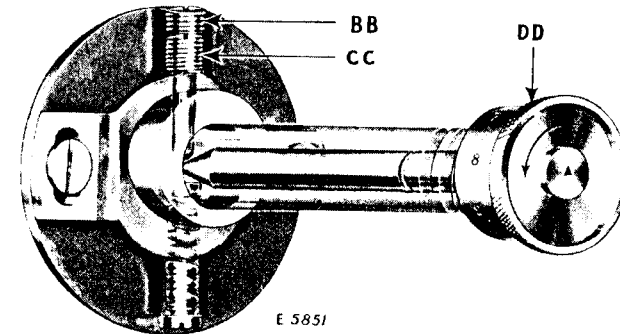

Fig. 19. "X-Ray" View of Feed Driving Eccentric
The figures on the feed regulating spindle head (DD, Fig. 19), showing through the notch in the balance wheel, indicate the
number of stitches to the inch which should be made. If more or less stitches are made, adjust as follows: Remove screw (BB, Fig. 19), set the indicator at 8 and the feed dog at its highest point, a full tooth showing above the throat plate, then adjust screw (CC, Fig. 19) until eight stitches to the inch is the result and replace check screw (BB) firmly.
TO SET THE FEED REGULATOR SO THAT A STITCH LONGER THAN THE ONE DESIRED CANNOT BE MADE. Turn the spindle head (DD, Fig. 19) as far as possible in the direction indicated by the arrow in Fig. 19; remove check screw (BB) and adjust screw (CC) until the